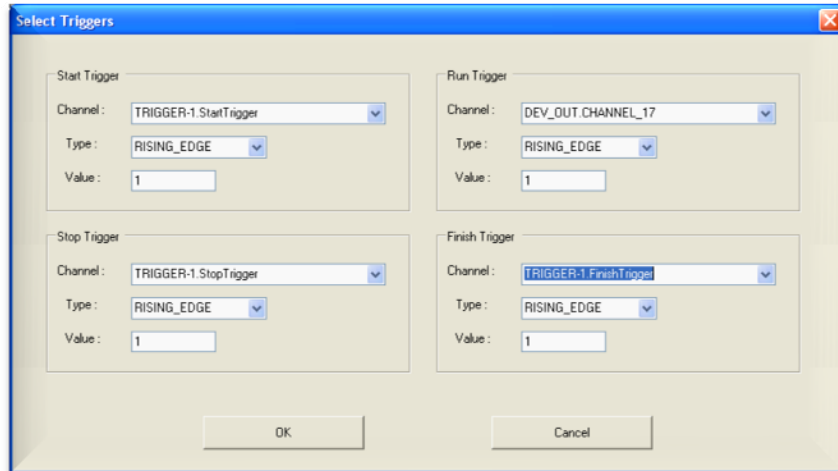
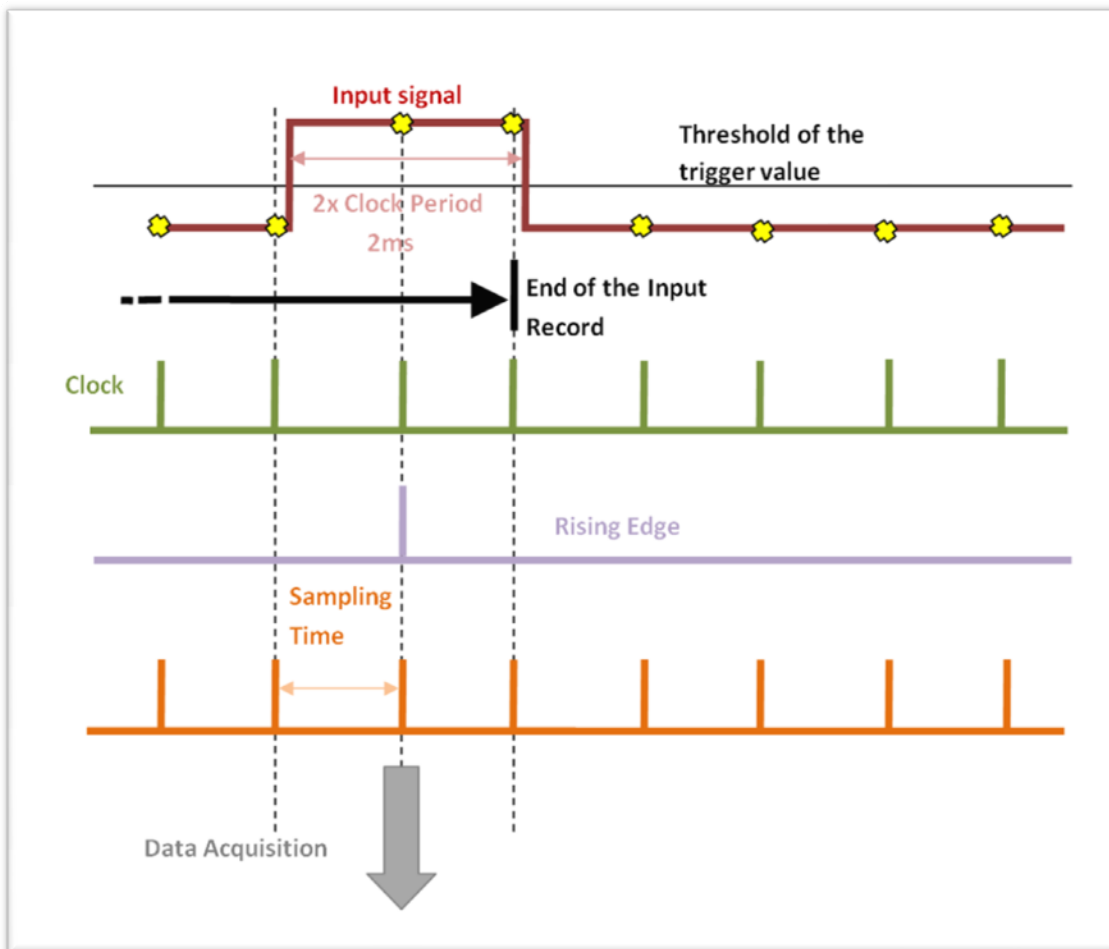
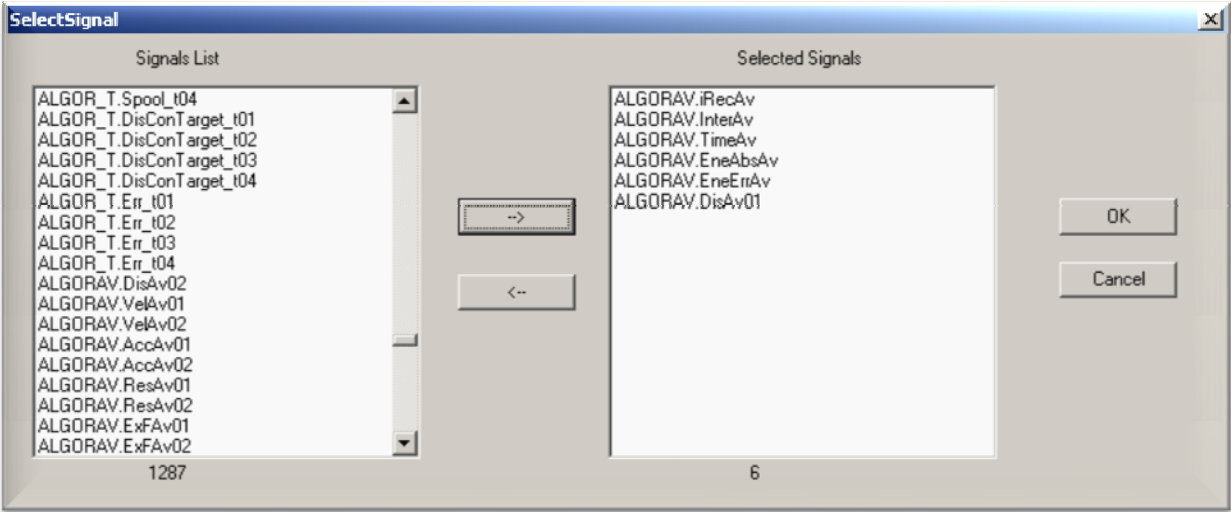

Figure 16
Figure 17 Acquisition through a Master Controller with an internal trigger synchronous with the DLL
Figure 18
① **ALGOR_T:** where the instantaneous value of the variables is stored. It is refreshed every 2ms. Typically used for debugging purpose.
② **ALGORAV:** where the accumulative value of the variables is stored and divided by the number of points at the end of every input record, so as to obtain a mean value of the variable. It is refreshed at the end of every input record. The average acquisition, which is a *synchronous* one, is usually the most interesting one (see Figure 16, Figure 17 and Figure 18).
③ **ALGORESTART:** where the variables that are useful for the restart of the test are stored. It is refreshed at the beginning of every input record but the values of the variables are not averaged. The restart acquisition, as the average one, is *synchronous*.